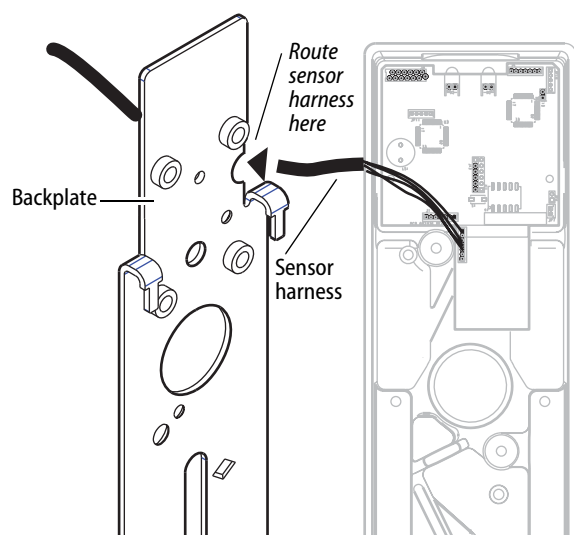

Figure 14 Re-routing the sensor harness for Precision 2300 and Sargent 8800 exit devices
- 4 Re-route the sensor harness toward the top of the escutcheon to the same area as the battery cable, antenna cable and relay shunts. See Figure 14.